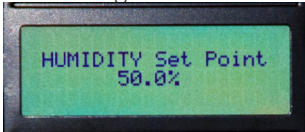

Fig. 11—(Right) Press HUM to display the humidity setpoint.
1. Press the **Hum** button to display the current humidity setpoint (Fig. 11).